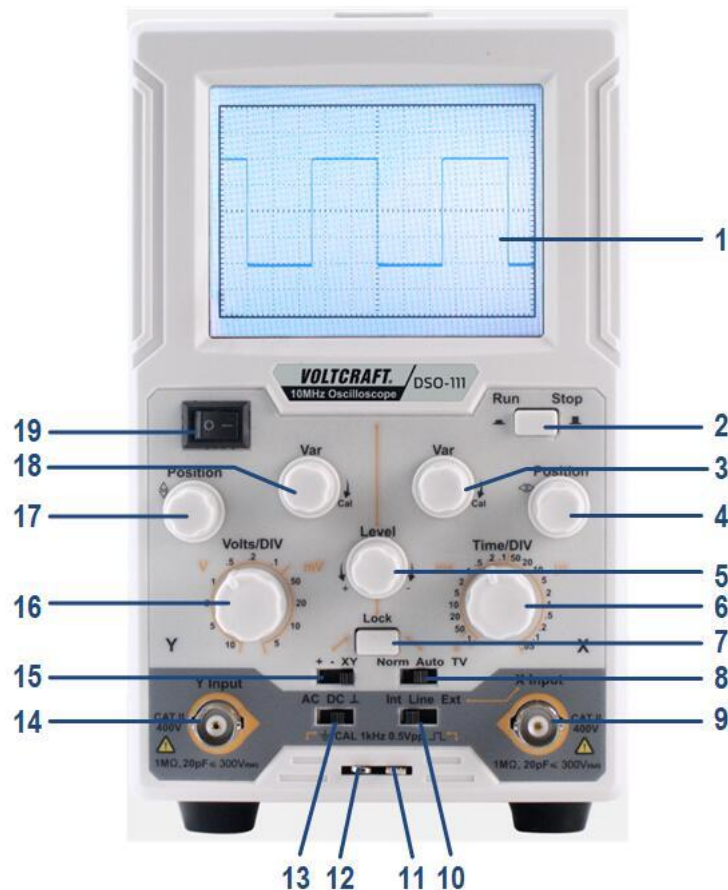

Figure 3- 1 Front panel
2. Connect the probe BNC connector to the Y Input terminal. Connect the probe tip to the calibration signal on the front panel (see 11 of Figure 3- 1 Front panel). Connect the reference wire clamp to the ground wire connector of the calibration signal (see 12 of Figure 3- 1 Front panel).
3. Check the displayed waveforms and regulate the probe till a correct compensation is achieved (see *Figure 3- 3* and *Figure 3- 4*).